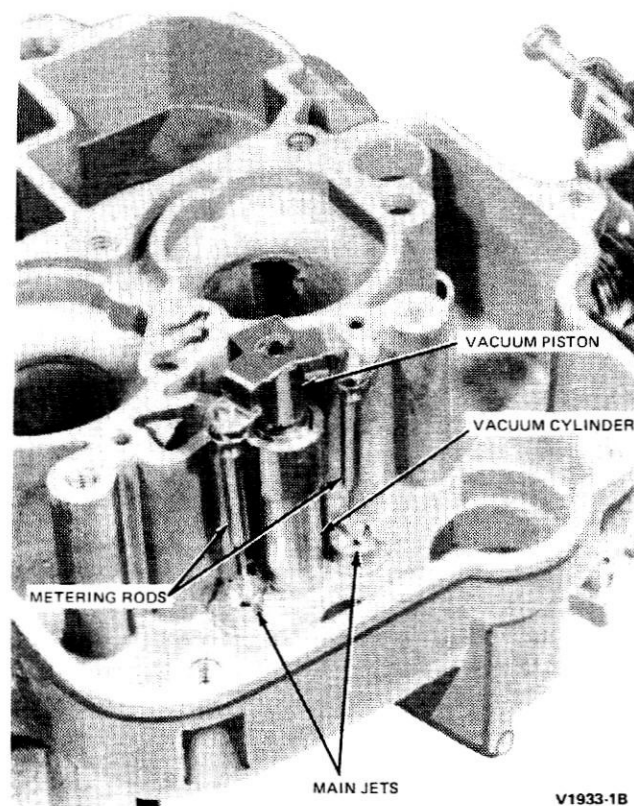

FIG. 31 Main Body Components—Air Horn Removed
1. Turn the main body upside down and catch the accelerator pump discharge needle and ball, (Fig. 31).